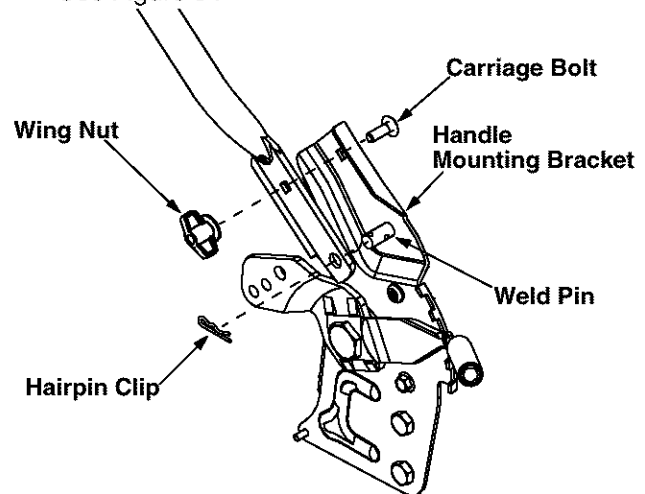

Figure 3
- For shipping purposes, the hairpin clip is placed in the outer hole of the weld pin on the lower handle. Remove the hairpin clip from the outer hole of the weld pin. See Figure 3.
- Using a pair of pliers, insert the hairpin clip into the inner hole on the weld pin. Repeat on other side. See Figure 3 .